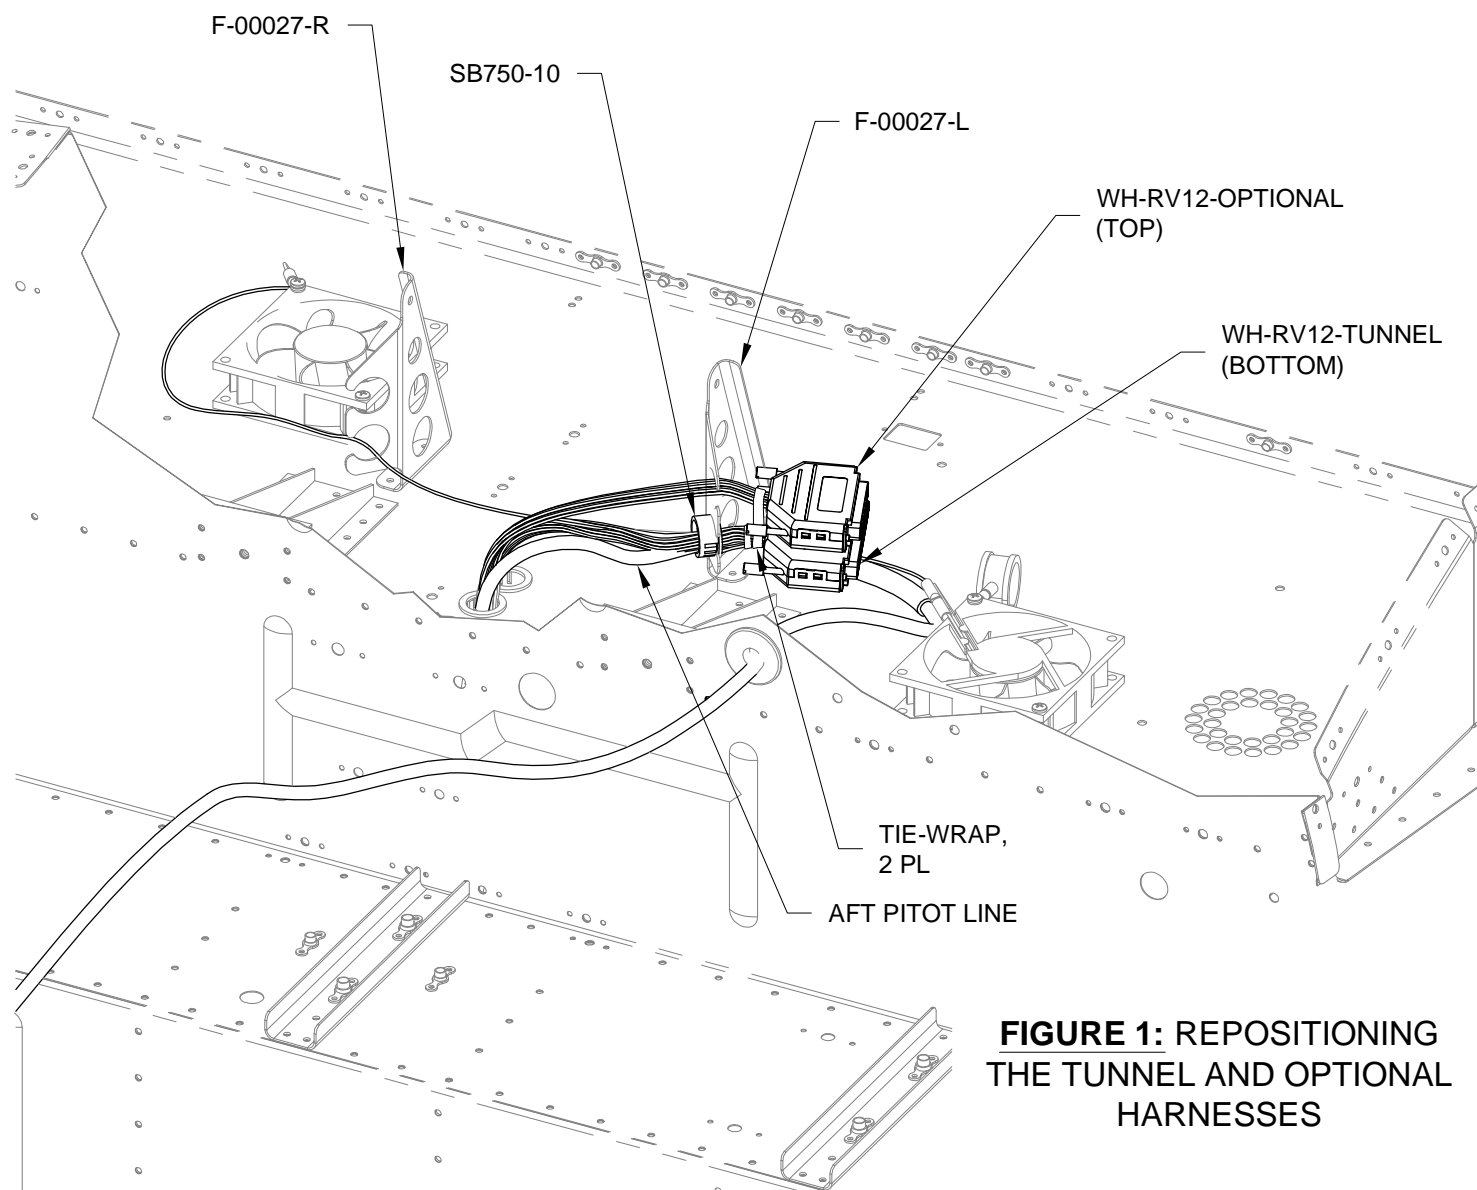

FIGURE 1: REPOSITIONING THE TUNNEL AND OPTIONAL HARNESSSES
Step 4: Loosen the F-12125 Over Rudder Wireway. See Page 31-13 Figure 1.